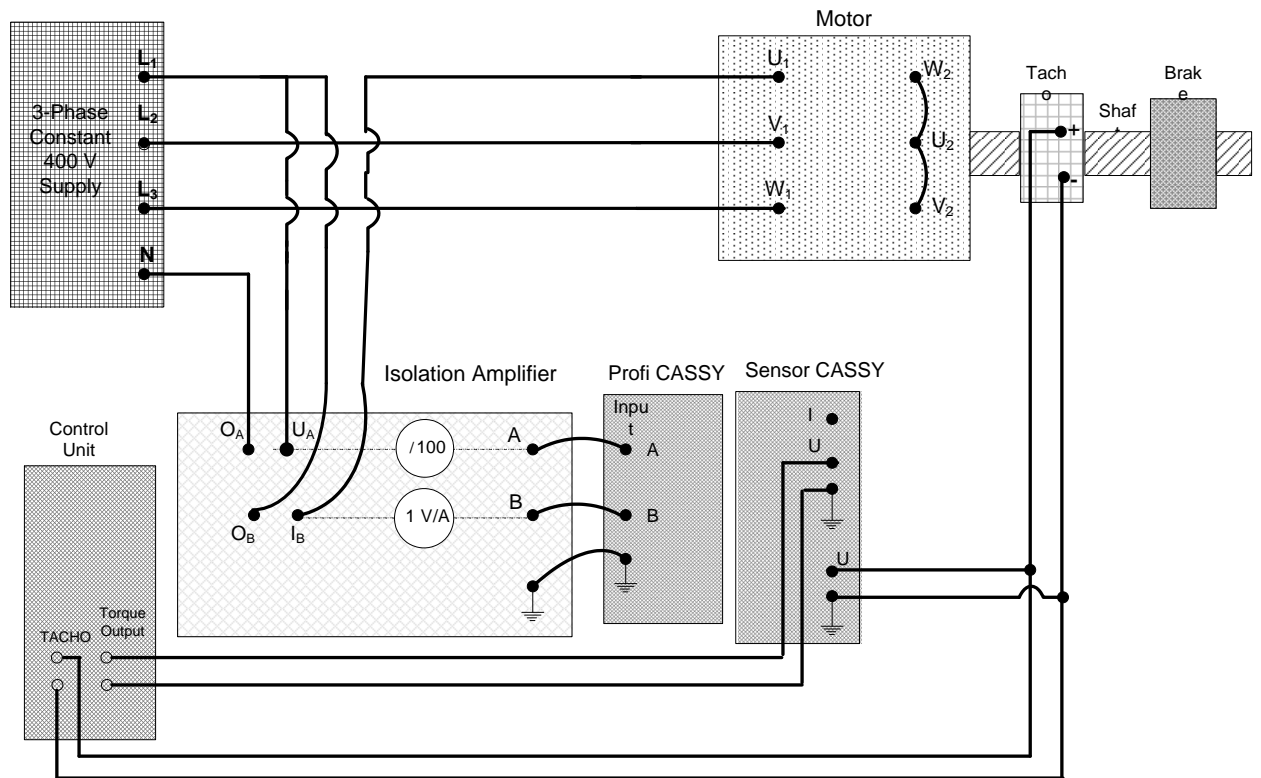

Fig. 7: Wiring diagram under Load Test
20. Connect the circuit as shown in the wiring diagram of Fig. 7. Note that the source used in this test is constant three-phase supply. Make sure that the constant supply is OFF before starting connections.